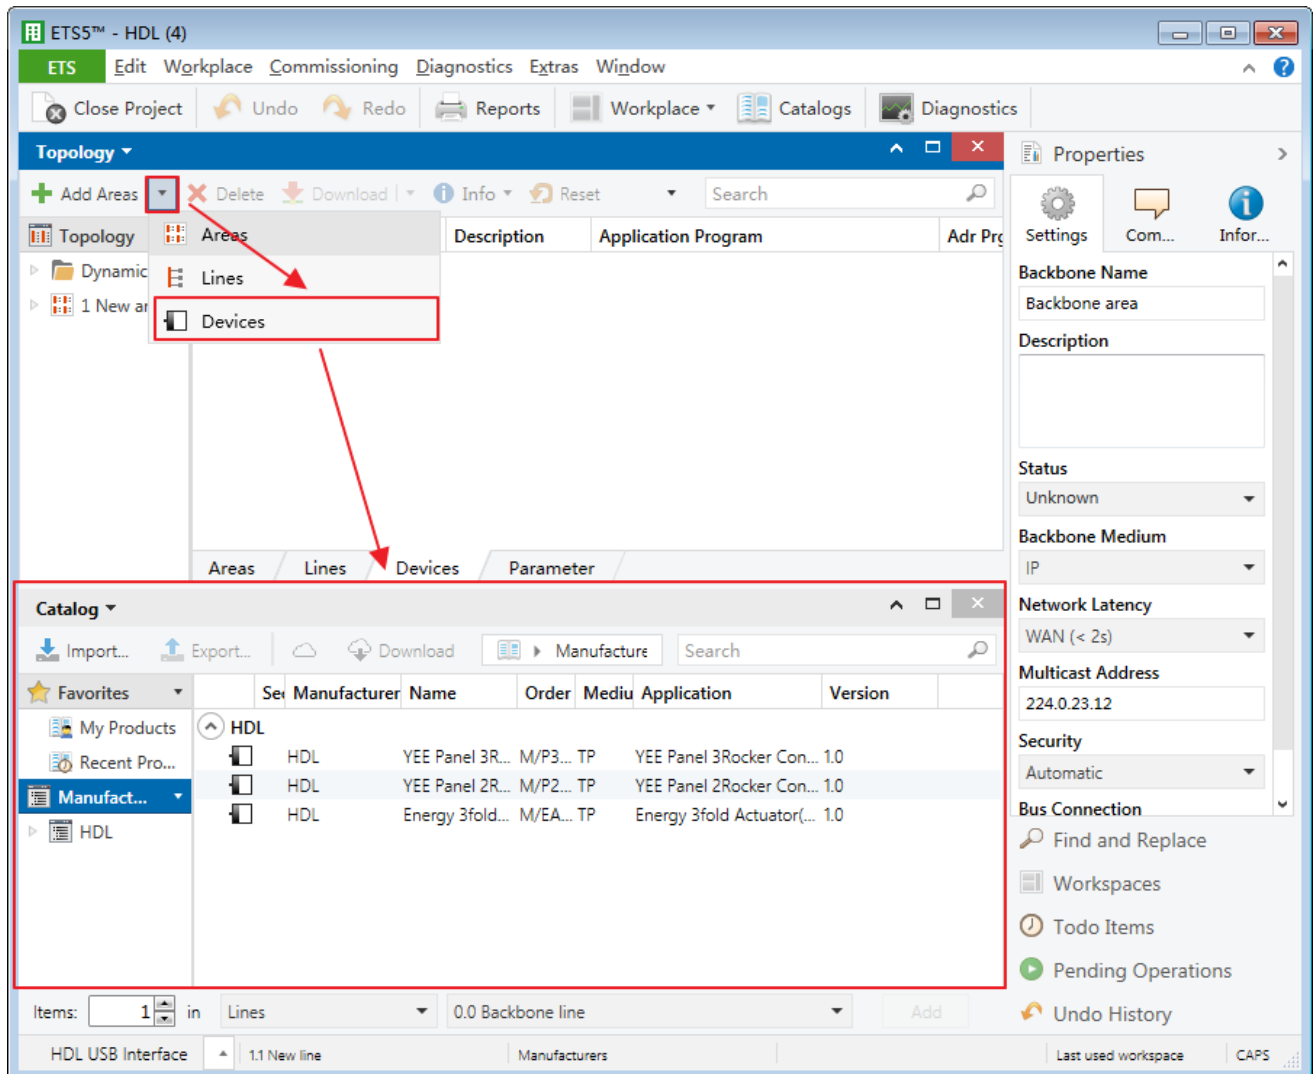

Figure 1-4 Open catalog page
- ② Figure 1-4 shows “Topology” page. Click the arrow beside “Add Areas” and select “Devices”. The catalog page will show up below.